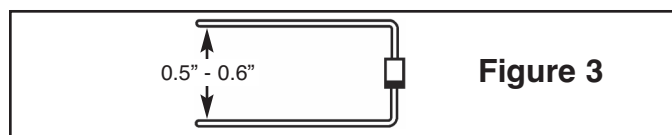

Figure 3
- ❑ 5. Bend the zener diode 1N4736 (6.8V 1W, located in a separate bag) as shown in Figure 3.